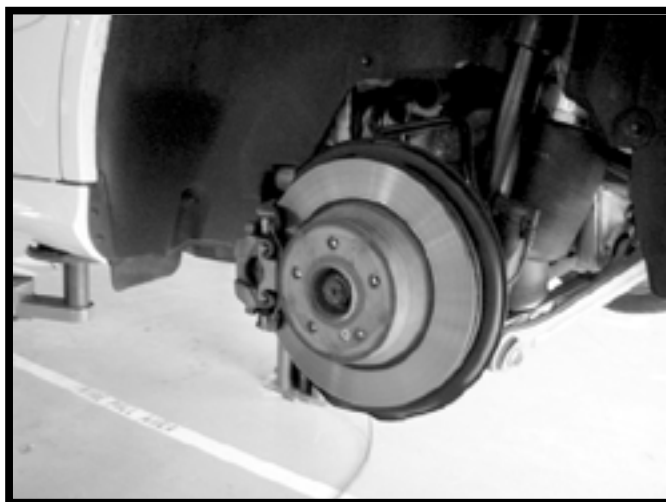

FIGURE 10-1
4.0 REMOVE REAR TIRE(S). (FIGURE 10-1)